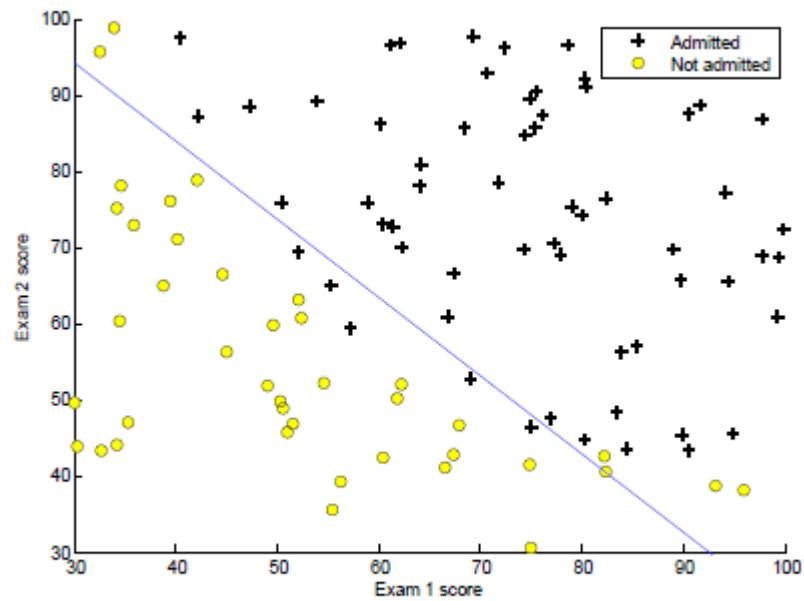

Figure 2: Training data with decision boundary
- Once `fminunc` completes, the remaining code will call your `costFunction` function using the optimal parameters of  $\theta$ . You should see that the cost is about 0.203. This final  $\theta$  value will then be used to plot the decision boundary on the training data, resulting in a figure similar to Figure 2. We also encourage you to look at the code in `plotDecisionBoundary.m` to see how to plot such a boundary using the  $\theta$  values.